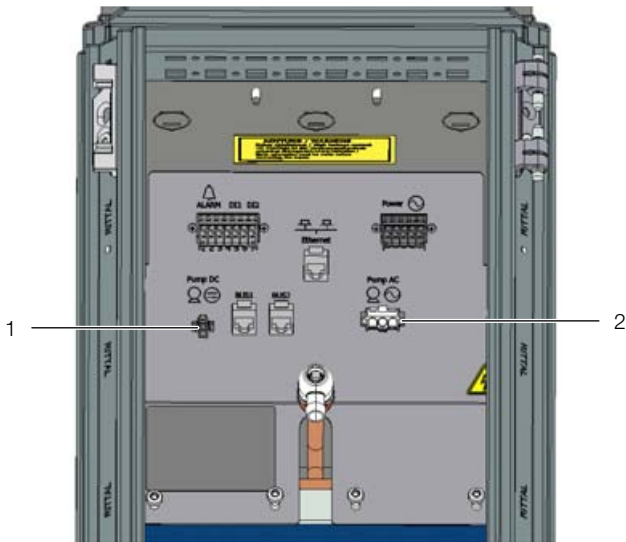

Fig. 54: Connection points
- Route the DC and AC cables of the condensate pump separated upwards to the connection sockets in the LCP (fig. 54).